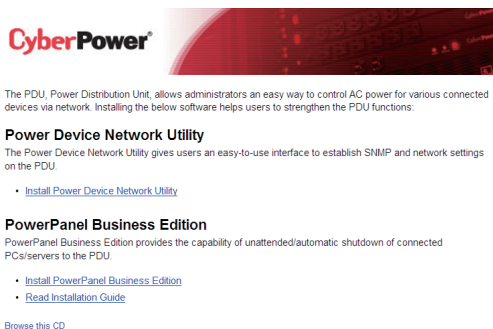

Figure 1. Installation Menu
Step 2. Select Power Device Network Utility from the installation menu (Shown in Figure 1.).